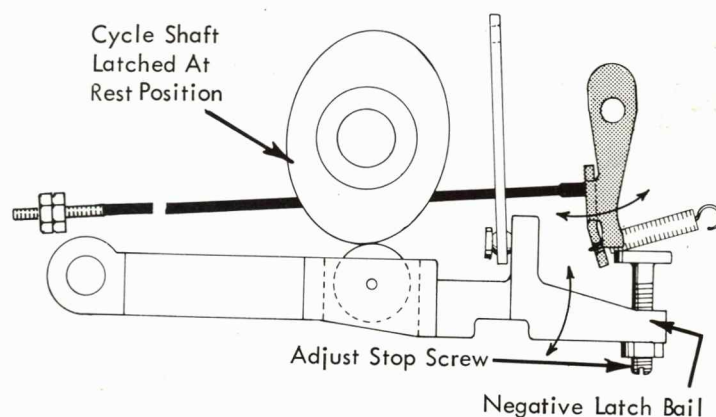

FIGURE 71. Negative 5 Latch Stop Screw
- b. Adjust the negative-5 latch stop screw so that the negative-5 latch (Fig. 71) will reset simultaneously as the check pawl drops into the notch on the check ratchet at the rest position.